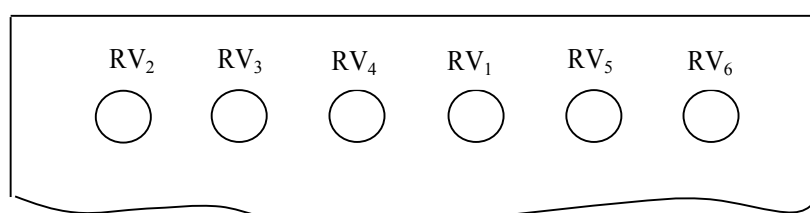

Figure 8
4.10.2 All the output terminals of the power supply are in series connection shown Fig8.